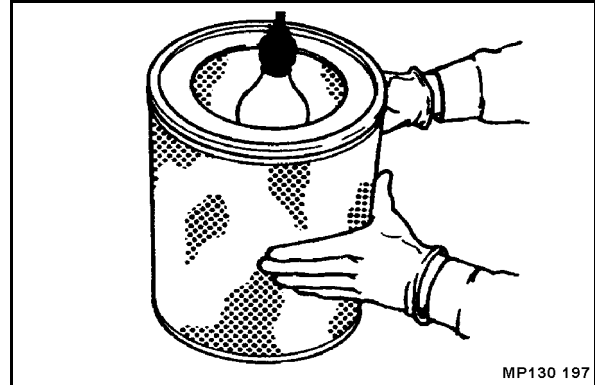

Fig. 186
- Examine the air filter with a torch for cracks and holes in the paper bellows (Fig. 186).